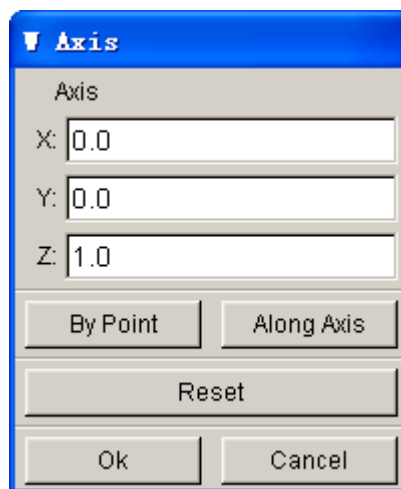

Figure 2.5.2 Define W Axis
- Select BY POINT or ALONG AXIS from the U/V/W AXIS dialog (Figure 2.5.2) to define the axis. If BY POINT is selected, select a point in the display window to define the vector for the desired axis. If ALONG AXIS is selected, the choices are ALONG X, ALONG Y, ALONG Z, ALONG U, ALONG V, ALONG W. After selecting an axis, select DONE.